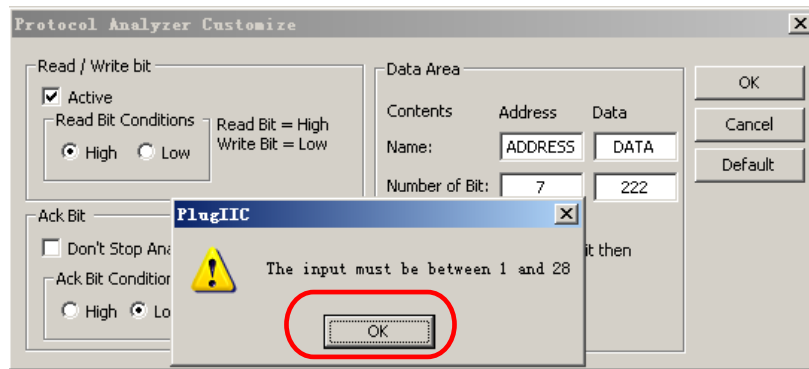

Fig 4-68 – Inputting Data Bits
Step7. Click **Custom Setting** to define the IIC Data to meet users' requirements. The dialog box as shown in Fig 4-68 will be displayed.